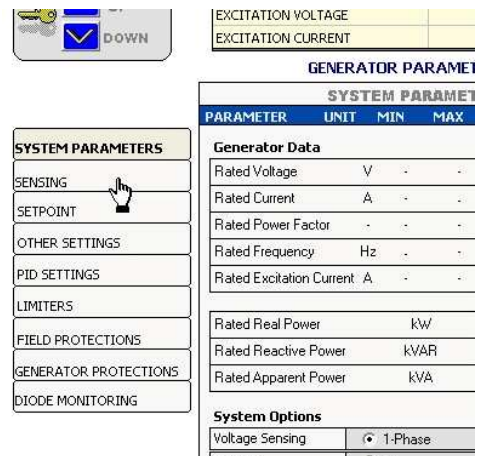

Fig. 5.5.a
- ❖ Click in the field to modify and enter the desired value. Repeat the operation for each parameter to be configured (see Fig. 5.5.b).
- ❖ As soon as all parameters into the group are set, click the *Apply Current Page* button, located under the configuration area (see Fig. 5.5.c).